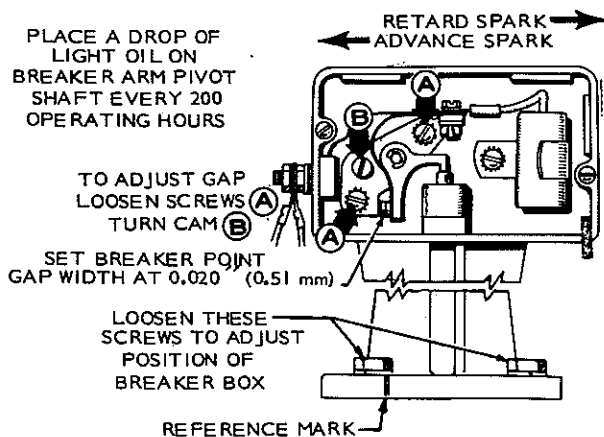

FIGURE 10-39. BREAKER POINTS
1. Remove breaker box cover, Figure 10-39.
5. Turn point adjusting cam screw (B) until point gap is .020 inch (0.51 mm) and tighten mounting screws (A) as shown in Figure 10-39.